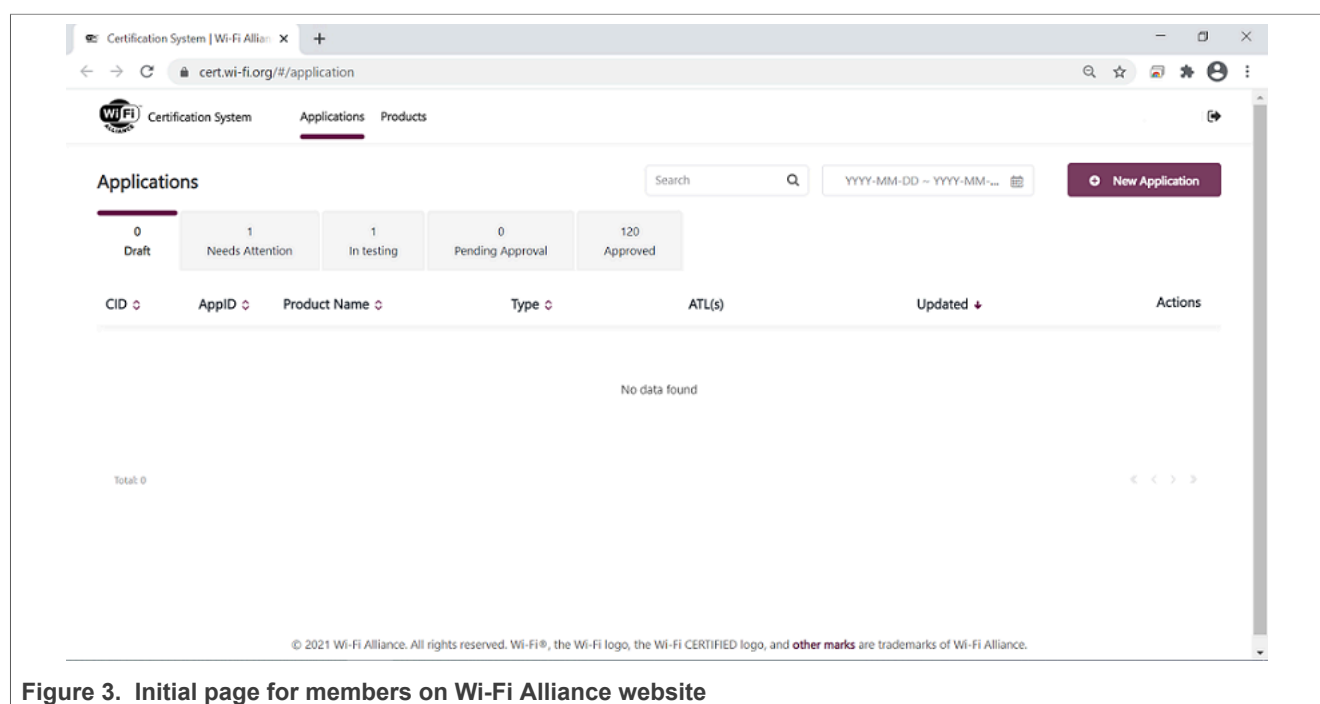

Figure 3. Initial page for members on Wi-Fi Alliance website
- Select the **New Application** tab. See Figure 3.